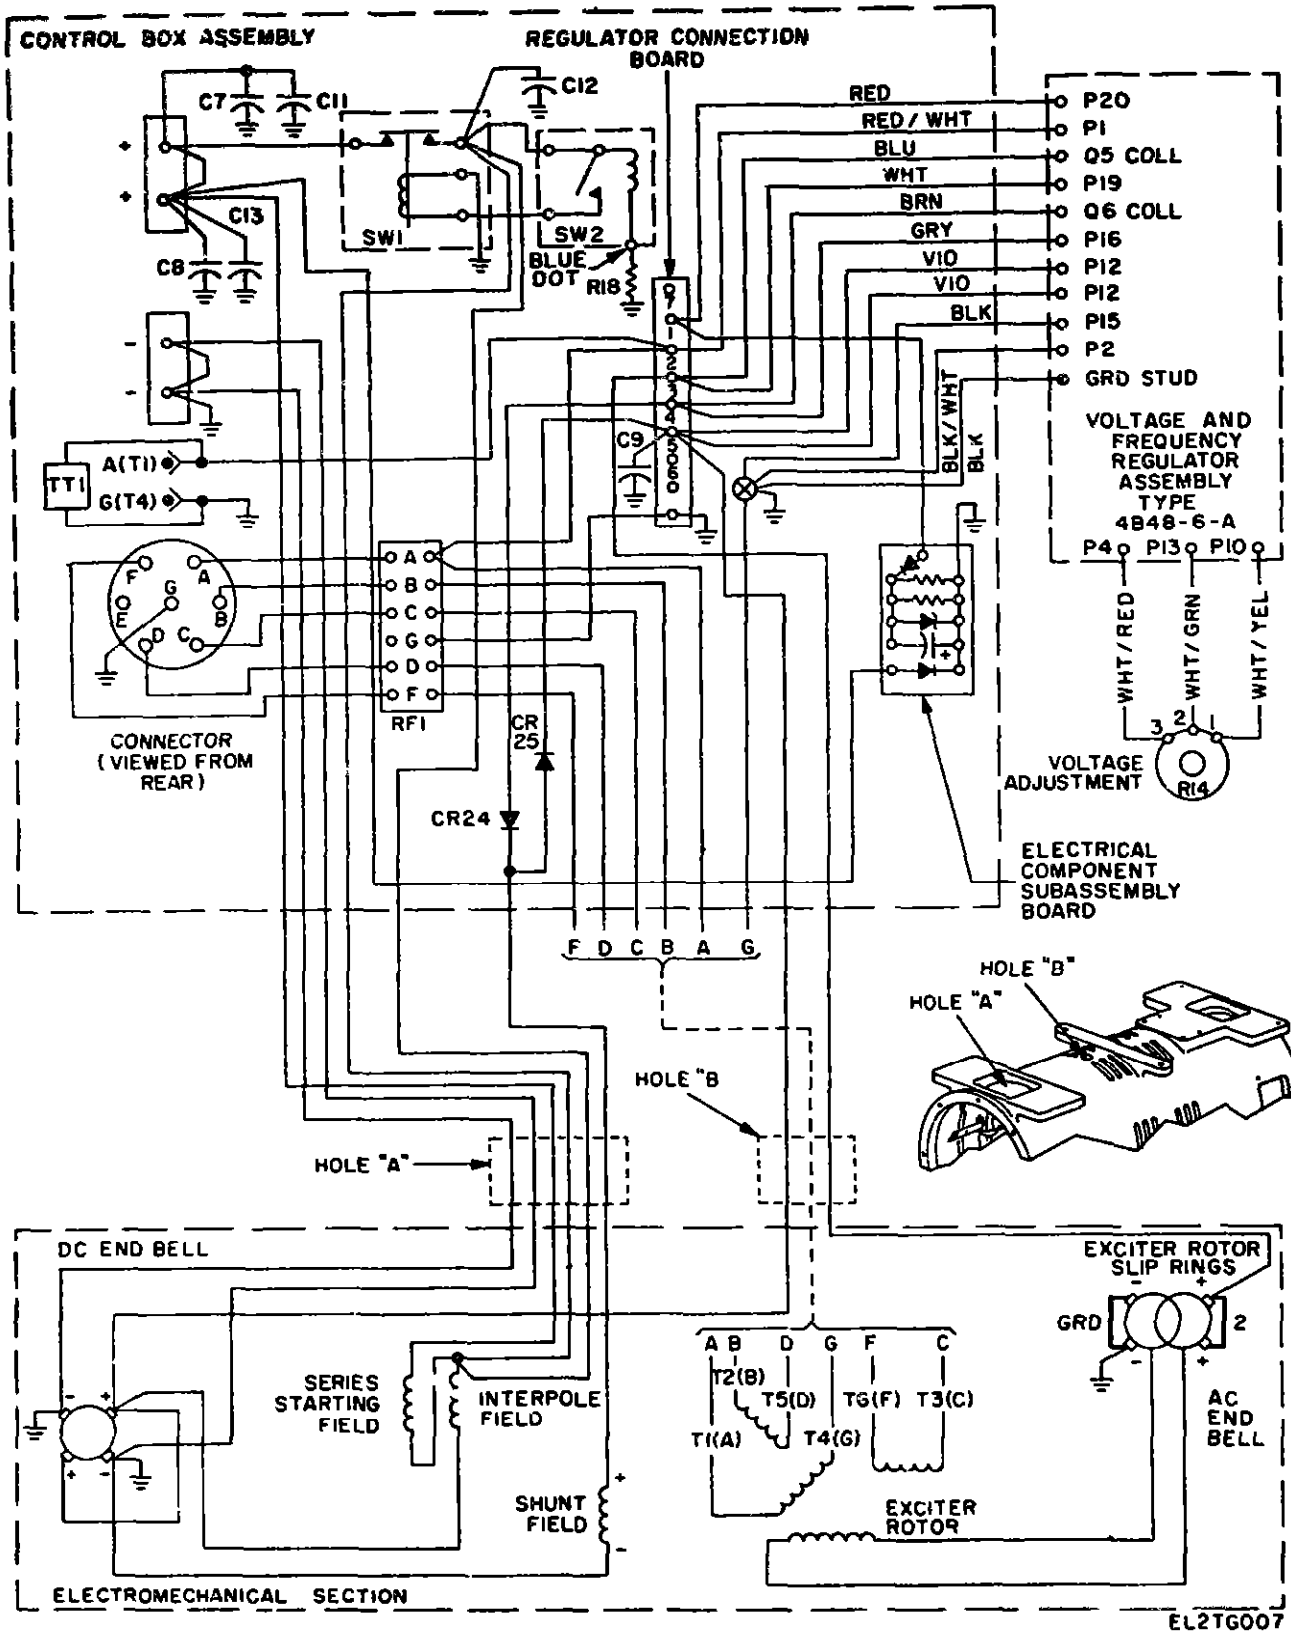

Figure 4-1. Interconnection wiring diagram and motor-generator PU-750(A)
With all power off, make resistance measurements as follows (fig 4-1 or 4-2.1).
(1) If necessary, use fig. 4-1 or 4-2 as an aid in making continuity measurement
(2) If it is necessary to check the electrical components within the control box assembly, refer to Section V for electrical test values